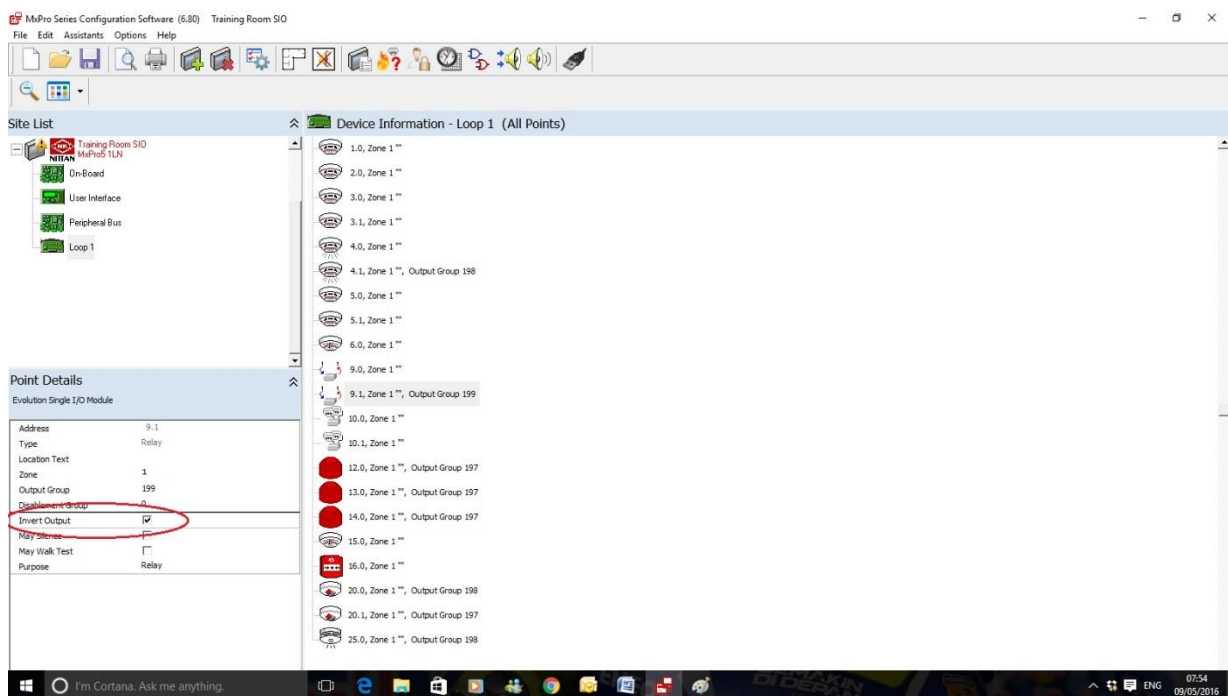

Figure 1
3. In the Point Details section of the PC Config tool check the “Invert Output” box for the appropriate Output Module. Refer figure 1 below.